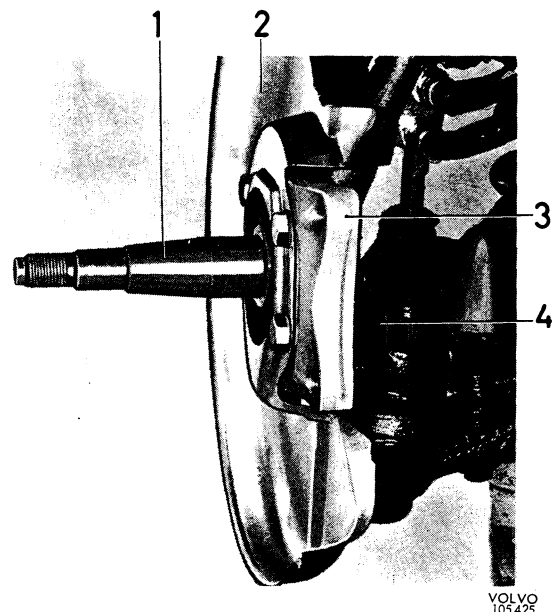

Fig. 6-22. Front end components
2. Fit together the steering knuckle, retainer, steering arm and protective plate with the four bolts, see Fig. 6-22.